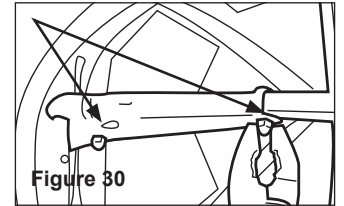

Figure 30
- You will have to use pliers to carefully remove the acorn nuts (Figure 30).